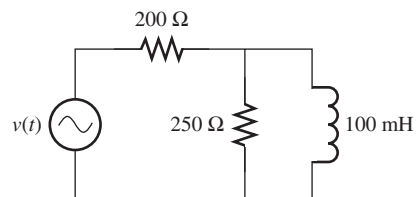

FIGURE P6.27 Circuit for Problem 6.27.
- 6.27** (H) Determine the power consumed by the inductor for the circuit in Figure P6.27 if the voltage source is $15 \cos(200t)$. Provide the solution up to two decimal places.